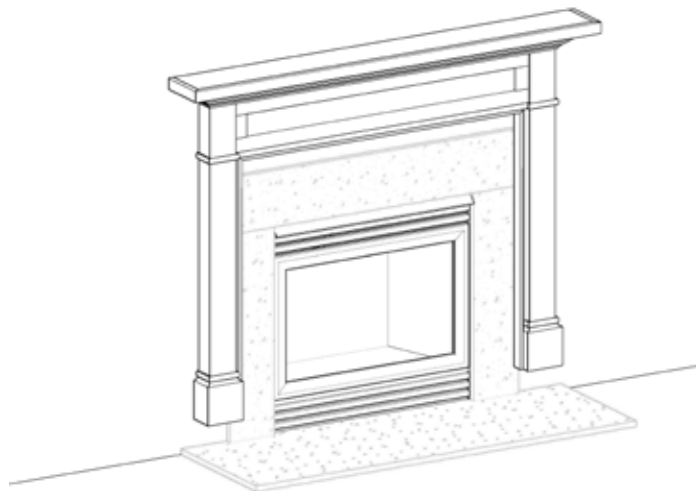

Figure 9
6. Now position the mantel in front of fireplace and lift it until the Techmount brackets are higher than the ledger strip, move it back until it contacts the wall, and lower it until the plungers contact the ledger. Make sure mantel is centered on your fireplace. Push down firmly on top of the shelf until legs of mantel contact the floor. The main part of the installation is now done. You can remove and replace it at will. For a more permanent installation, use high temperature silicone between the leg returns and the wall, or if it is to be painted, caulk it to the wall all the way around. See Figure 9.